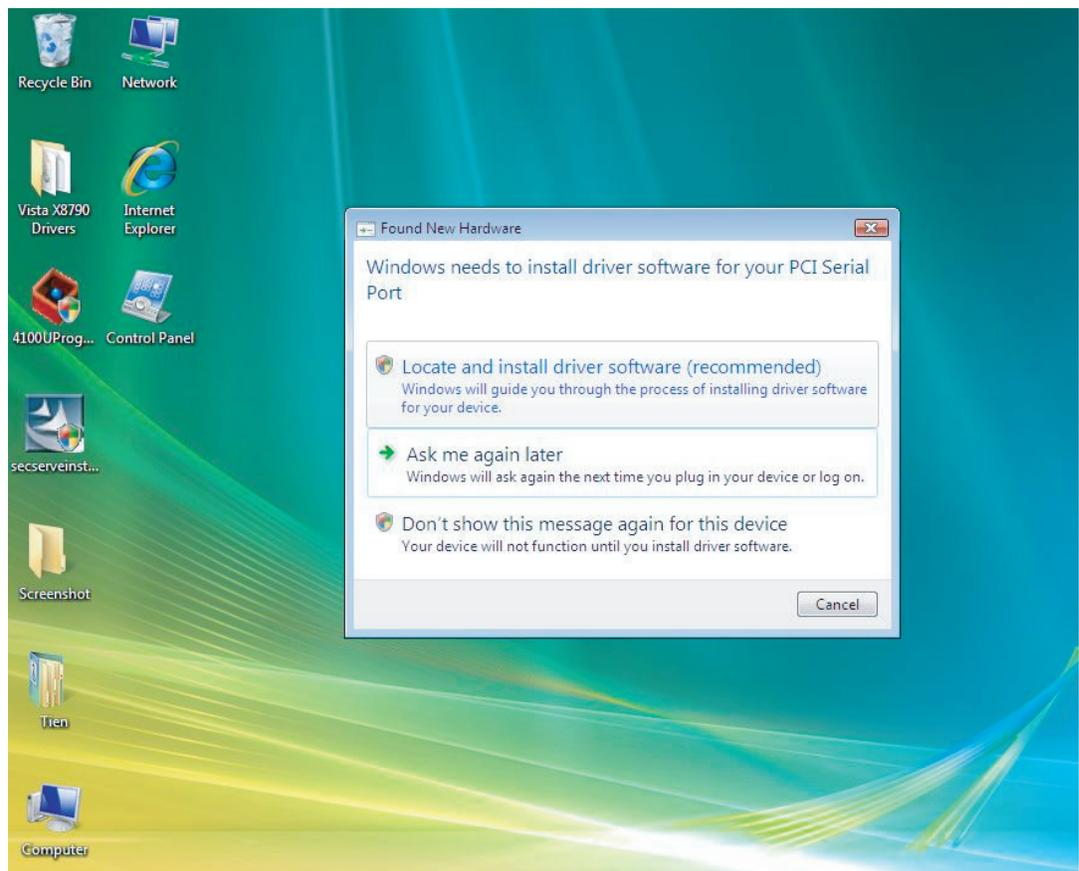

Figure 7-2 “Found New Hardware” Wizard
4. Power-up the computer and make sure Windows auto detects the new PCI card, as shown in Figure 7-2 below.